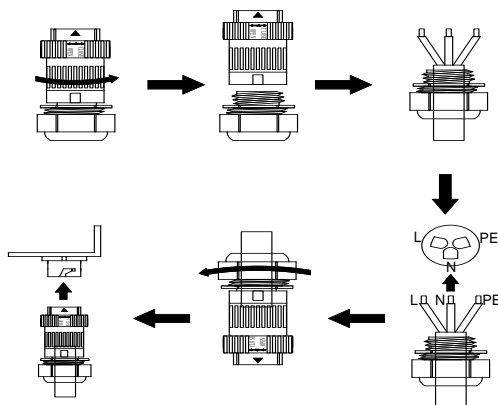

Figure 3.9.1 AC connection of single-phase inverter
- (1) Before connecting the single-phase AC grid cable to the inverter, take lightning and short circuit protection measures in accordance with the local electrical safety codes;
- (2) As shown in Figure 3.9.1, connect and fasten L, N and PE conductors of the single-phase common grid to AC terminal, and then connect the terminal to the AC port of the inverter;
- (3) Fix and connect the DC output cables of PV board with the matched DC connectors, and then connect the connectors to the DC port of the inverter.